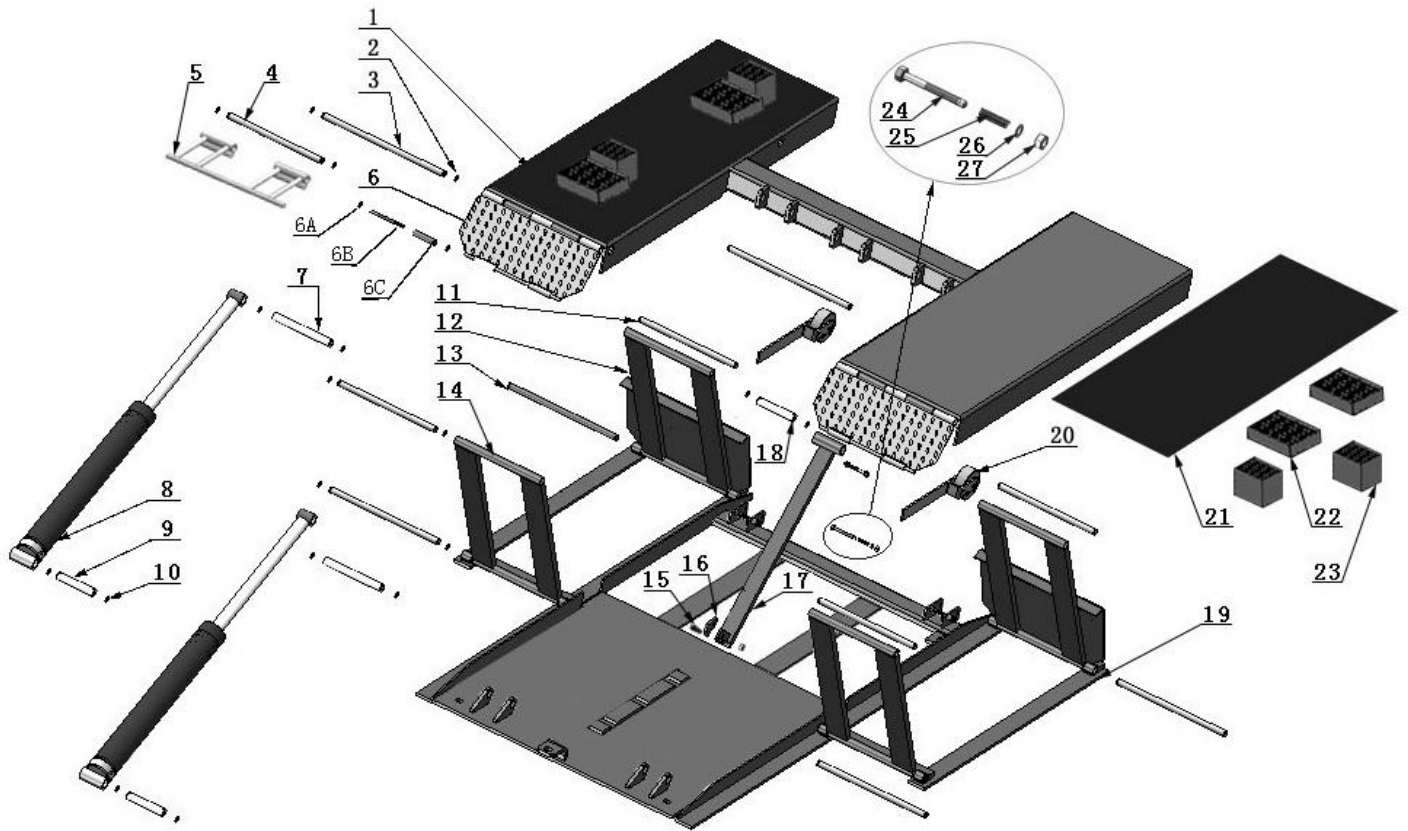

**Fig. 9**
2. Connection step (See Fig. 9)